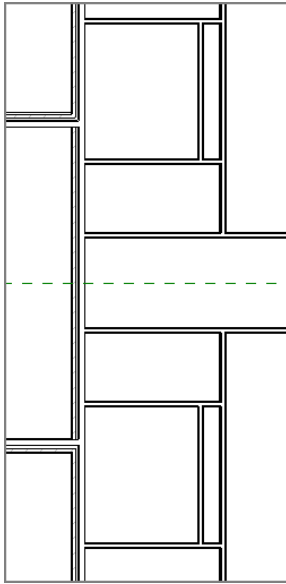

FIGURE 2.38: Both the men's and women's lavatories
3. After you draw in the lavatory walls, mirror the walls to the other side of the building, as shown in Figure 2.38.